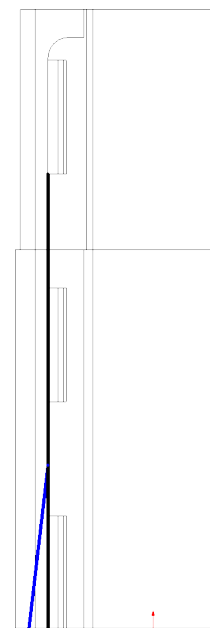

Fig. 61
Step 7. Sketch a line at angle between converted lines, **Fig. 61**.